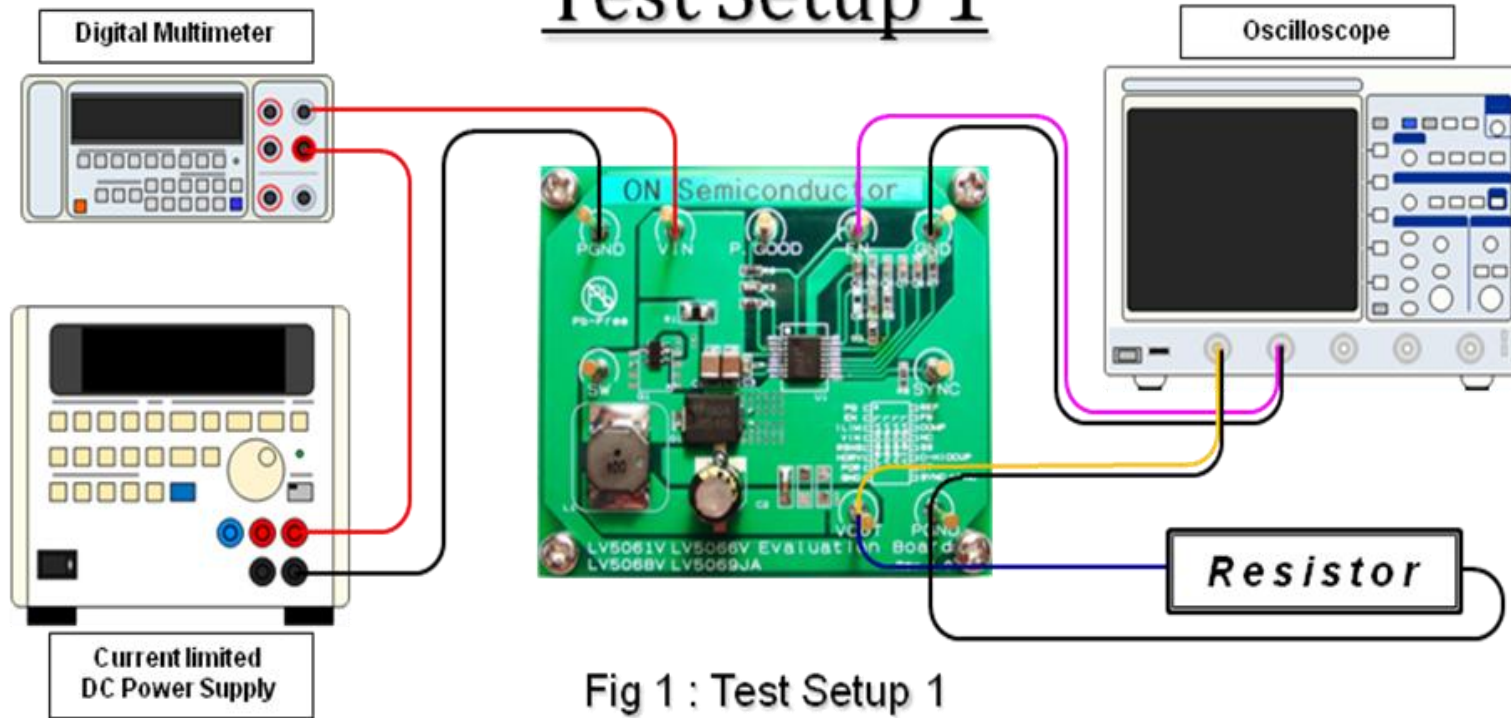

Fig 1 : Test Setup 1
- The layout is as shown in Figure 1: Test_setup1 and supply input voltage ($V_{IN} = 24V$).